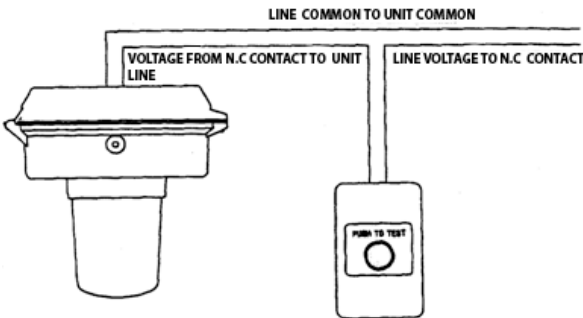

FIG.3
10. To install reflectors, back out (4) screws provided in ballast tank boxes enough to slip the reflector over the screws and twist in place. Tighten screws to secure reflector.
**NOTE:** For push to test station installation use Killark control station catalog number FXCS\_5B2 (e/push to test nameplate) or equivalent. Refer to Fig.3 for typical wiring diagram.